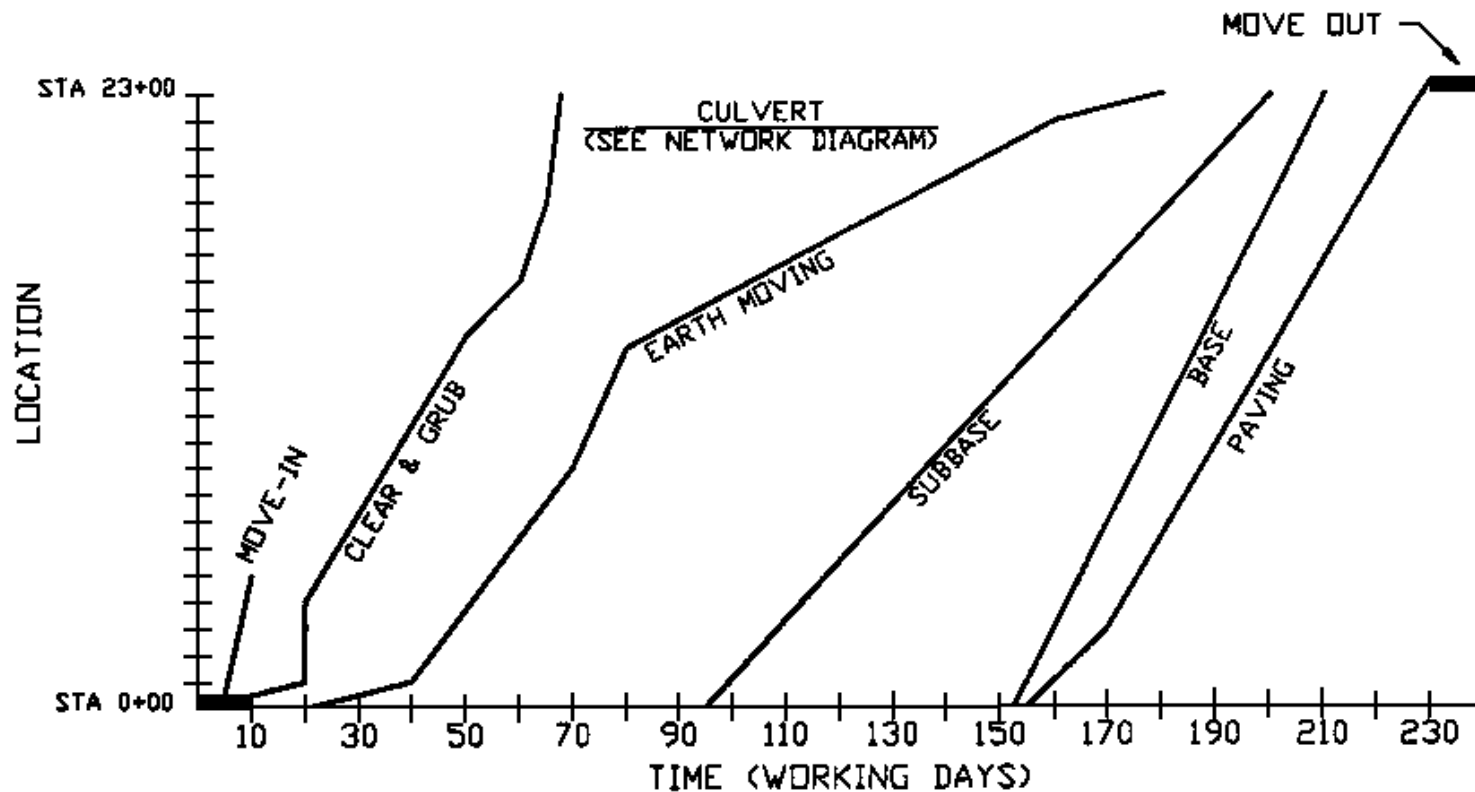

Figure 7-7 Linear scheduling method diagram
e.g. Figure 7-7 variation in clear and grub and in earthmoving